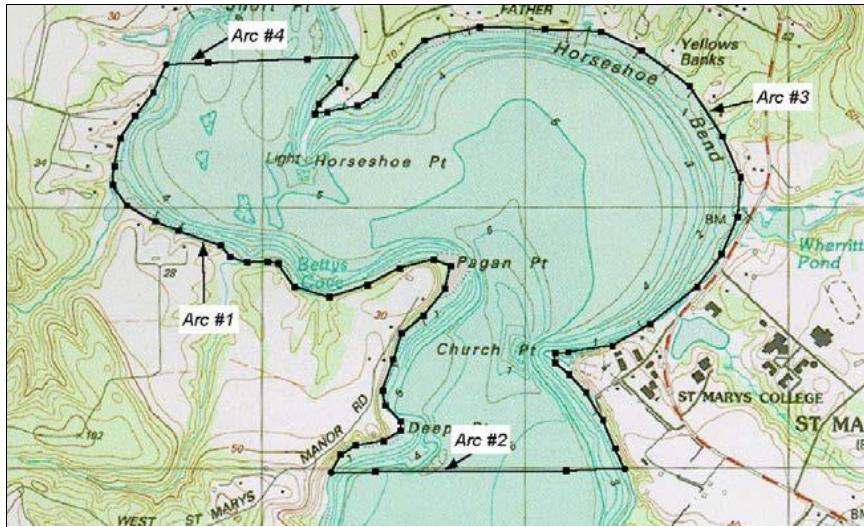

Figure 9 All feature arcs have been created
1. In the same manner just described, create the remaining three arcs, as shown in Figure 9.
2. Click on the arc that follows the left of the river bank, labeled *Arc #1* in Figure 9 above.
3. Click on the node at the center of the left side, as seen in Figure 9.